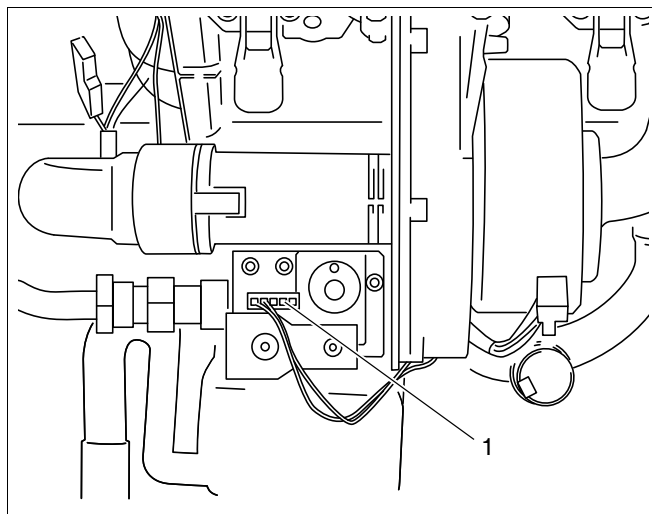

fig. 32 Checking the cable connections to the gas control valve (e.g. HONEYWELL gas control valve)
- Check that the plug of the gas control valve has been installed correctly (see fig. 32, pos. 1).